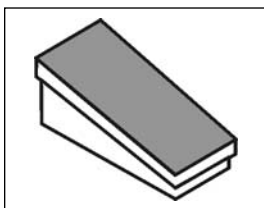

Fig. 7
2.2.3 Pedal remote control RC12 for MMA and TIG welding (Fig. 7)